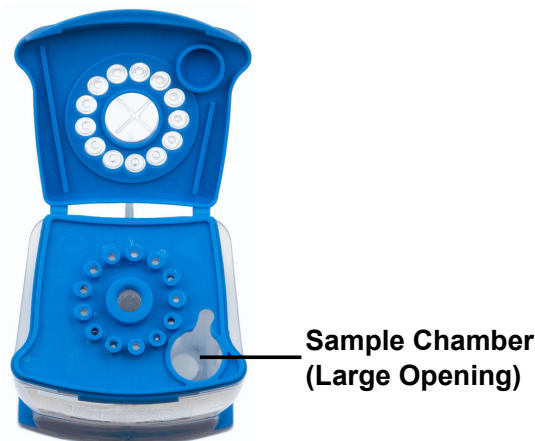

Figure 2. Cartridge (Top View)
- To transfer the patient specimen to the cartridge, squeeze the bulb of the transfer pipette completely again to empty the contents of the pipette into the large opening (Sample Chamber) in the cartridge shown in Figure 2.
2. Open the cartridge lid. Using a clean 300 μ L transfer pipette, transfer 300 μ L (one draw) of the NATtrol sample to the sample chamber with large opening in the cartridge (Figure 2). Refer to the instructions for the pipette included in the kit.
6. To transfer the patient specimen to the cartridge, squeeze the bulb of the transfer pipette completely again to empty the contents of the pipette into the large opening (Sample Chamber) shown in Figure 2.